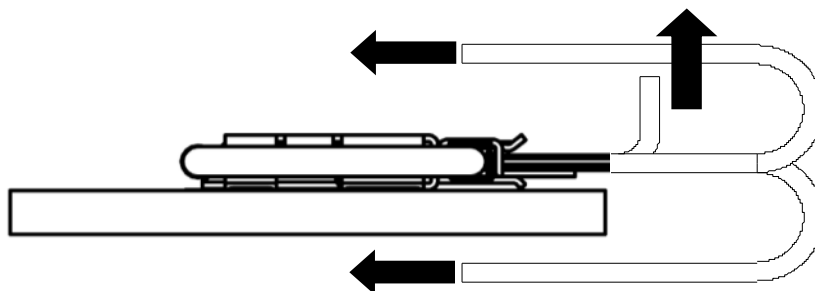

Fig.20 Without taping FPC
- II : Without taping FPC, do not position FPC as shown in figure 20, or it may cause connector damage or mating could become incomplete.